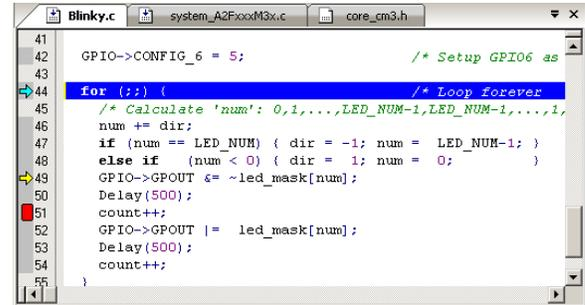

Figure 18: Breakpoint set on Line 51
1. Double-click on the left margin in a source or disassembly file: even while the program is running. Figure 18 shows the set breakpoint by the red box. This must be set on a gray box which indicates there is an assembly instruction present. Line 45 has no assembly instructions while 46 does.
6. The Exception Trace window will display the SysTick timer in Figure 18. Double-click to reset.